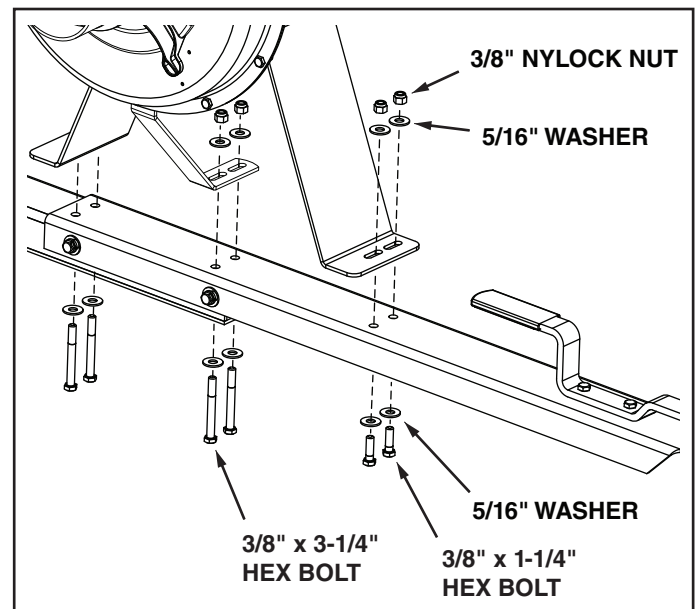

FIGURE 7
10. Attach the engine base assembly to the tongue using four 3/8" x 3-1/4" hex bolts, two 3/8" x 1-1/4" hex bolts, twelve 5/16" flat washers and six 3/8" nylock nuts. **Tighten.** See figure 7.